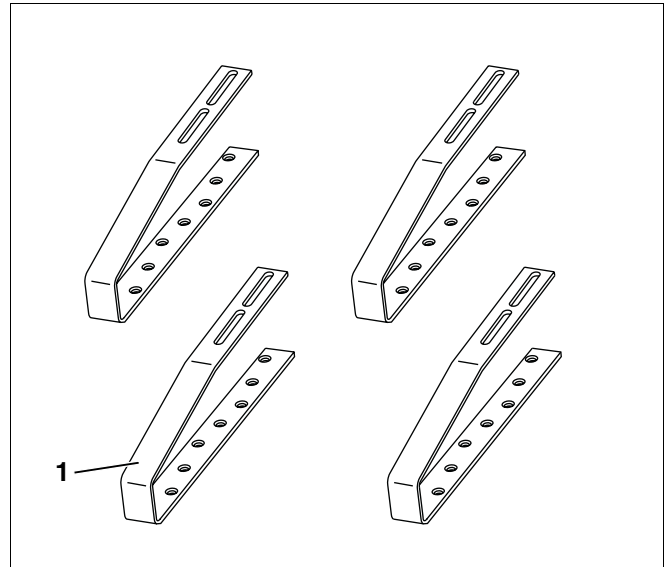

Fig. 8 Special roof hook installation set – accessories
4.2.7 Special roof hook installation set (for crown tile ridges; accessories, per collector) – Fig. 8